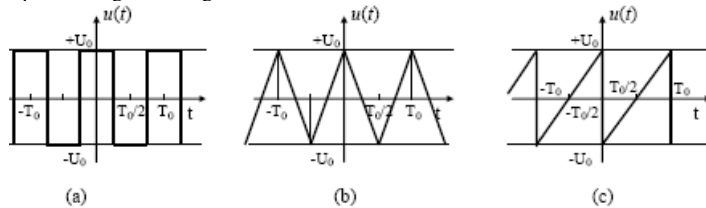

Fig. 5
- Decompose the signals in Fig. 5 in Harmonic Fourier Series.
- Compute the theoretical distortion factor (THD) for all the signals in Fig. 5.
- The signals in Fig. 5 are input to an ideal LPF with cutting frequency $f_{cut} = 4.5/T_0$. Compute the distortion factor THD for the output signals.